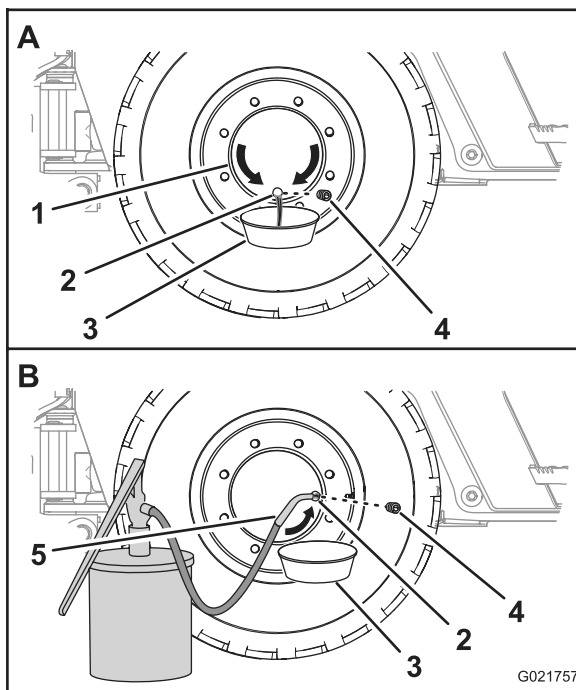

Figure 85
1. Move the machine forward or backward until the oil plug for the wheel hub is at the 6 o'clock position (Figure 85).
2. Place a drain pan under the oil port of the wheel hub (Figure 85).
3. Remove the plug and drain the oil from the planetary (Figure 85).
5. Move the machine forward or backward until the oil plug for the wheel hub is either at the 3 o'clock or the 9 o'clock position (Figure 85).